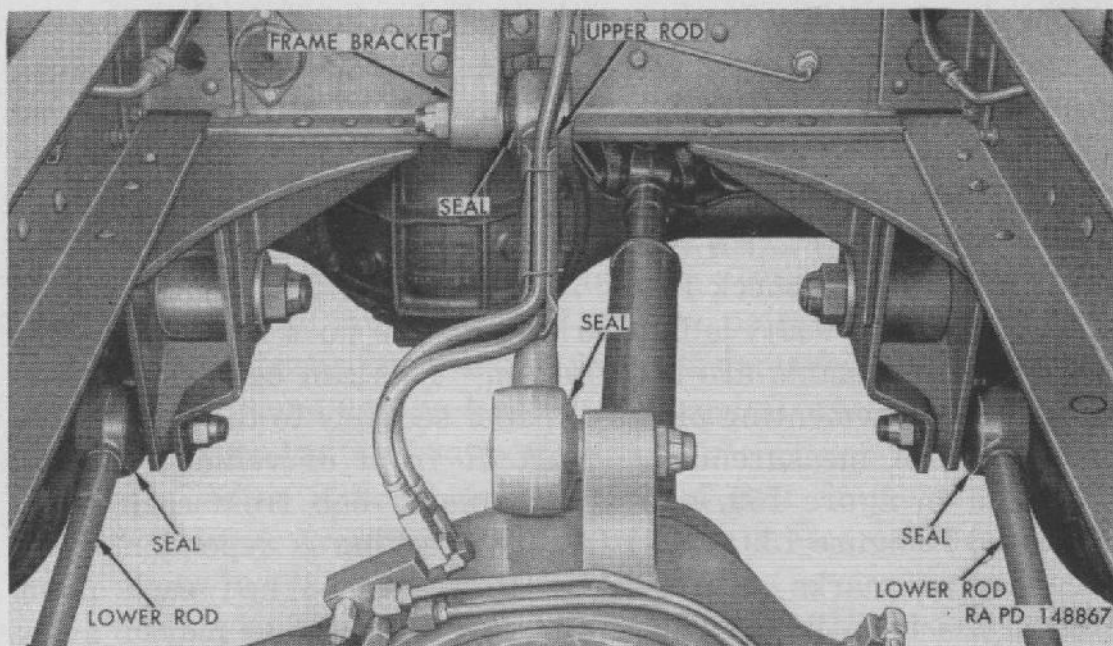

Figure 158. Rear torque rods installed (rear rear axle shown).
a. TORQUE ROD REMOVAL (fig. 158).
b. TORQUE ROD INSTALLATION (fig. 158).